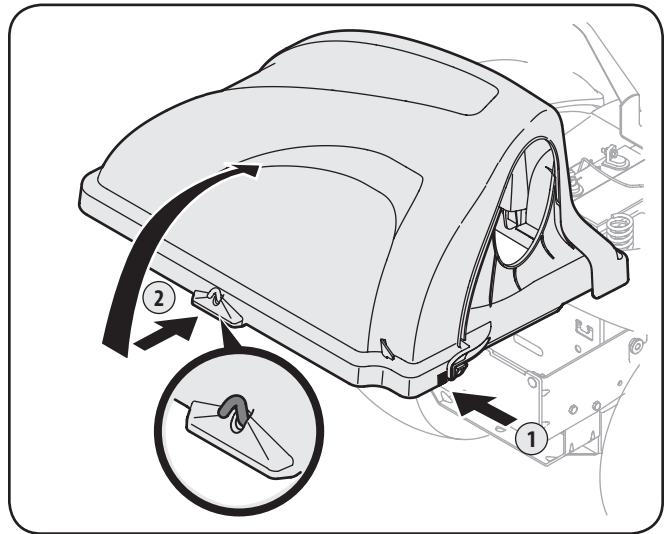

Figure 4-16
7. Open Hood by pushing in on the rear, right-side tab with your right hand, as seen in 1 of Figure 4-16, and lifting the cover with your left hand in the center rear of the bagger cover, 2.